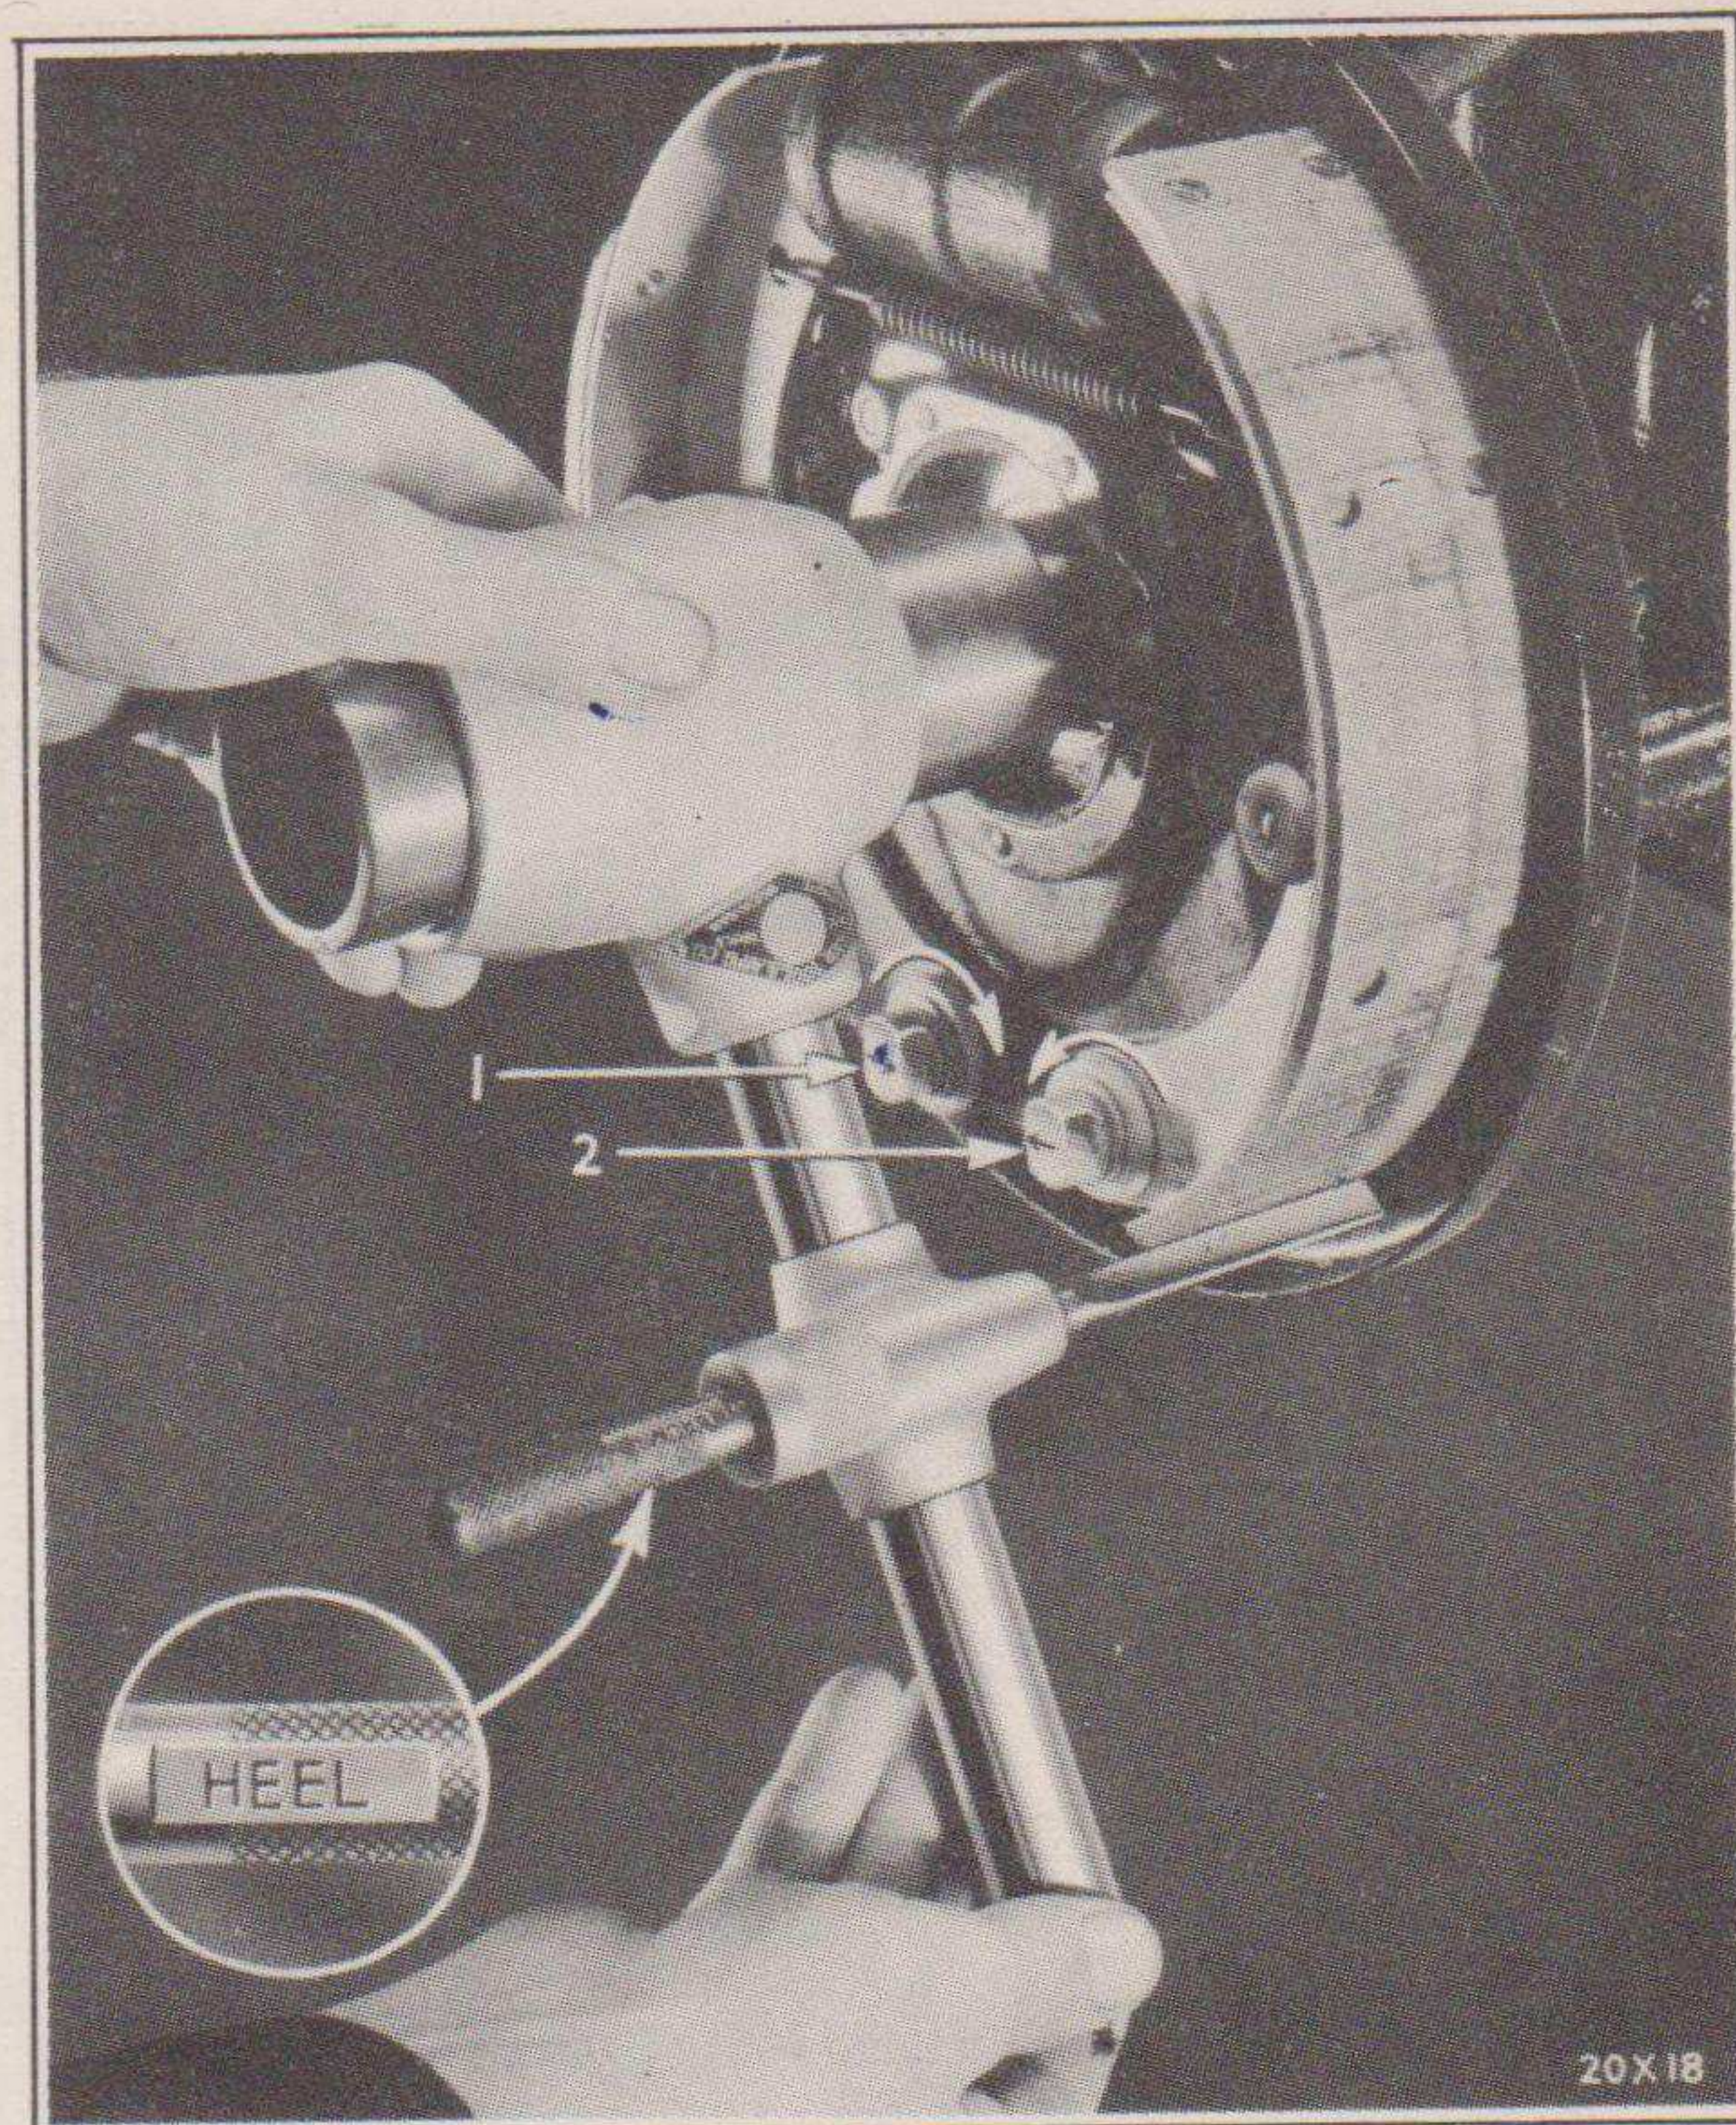

Fig. 75—Checking Brake Shoe Heel Adjustment
- (h) On the head of each anchor bolt an arrow is stamped to indicate the position of the brake shoe anchor bolt cam. If the arrows do not point toward each other, loosen the anchor bolt nut and turn the anchor bolts until they do. *These arrows must point toward each other before starting to adjust the brake shoes.* See Fig. 75. The anchor bolts must be turned, from that position, in the correct directions in order to *decrease* the clearance between the brake shoe lining and the drum at the "heels" of the brake shoes. The correct procedure is to turn the right hand anchor bolt of any pair *counter-clockwise* and the left hand anchor bolt of the same pair *clockwise*, to
*tighten* the brakes. See Fig. 75. When turning the anchor bolts as directed, the "heels" of the brake shoes will move downward and outward.
- (i) If necessary, turn the anchor bolts until the "heels" of the brake shoes just contact the "heel" adjusting finger of the brake shoe gauge arbor as shown in Fig. 75. (The correct .006" "heel" clearance is machined into the brake shoe gauge arbor.)
If the brakes are relined or the drums are replaced or resurfaced the anchor bolts should be turned (before drums are installed) so that the arrows on the heads of any pair of anchor bolts point toward each other. See Fig. 75. This is important as the arrows indicate the correct positions of the anchor bolt cams for proper movement of the shoes when the brakes are applied.